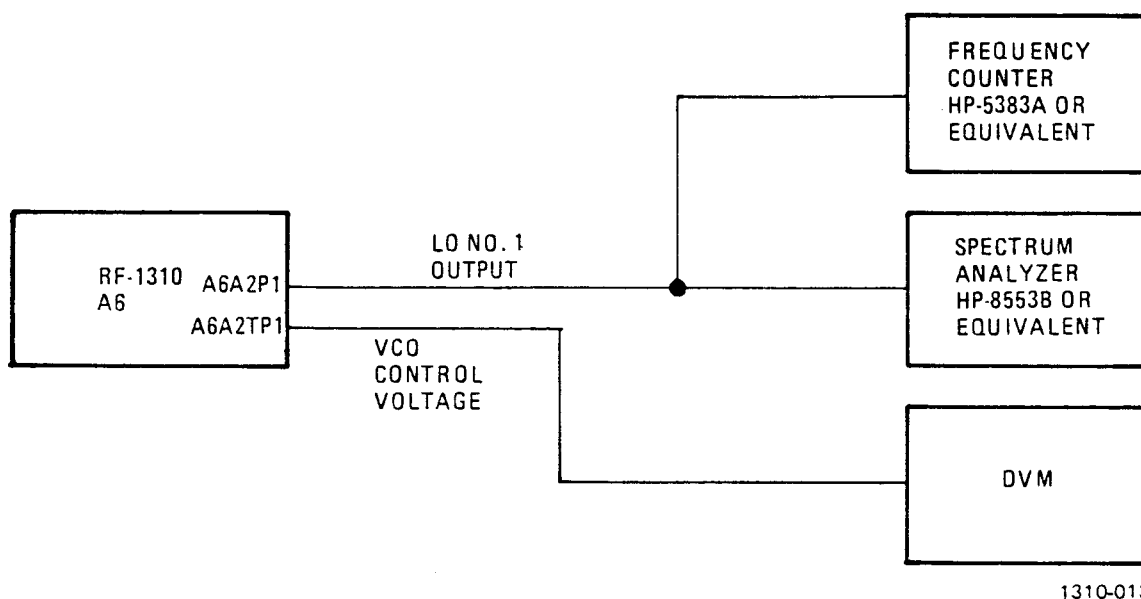

Figure 2. VCO Adjustment
- a. Connect equipment as shown in figure 2.